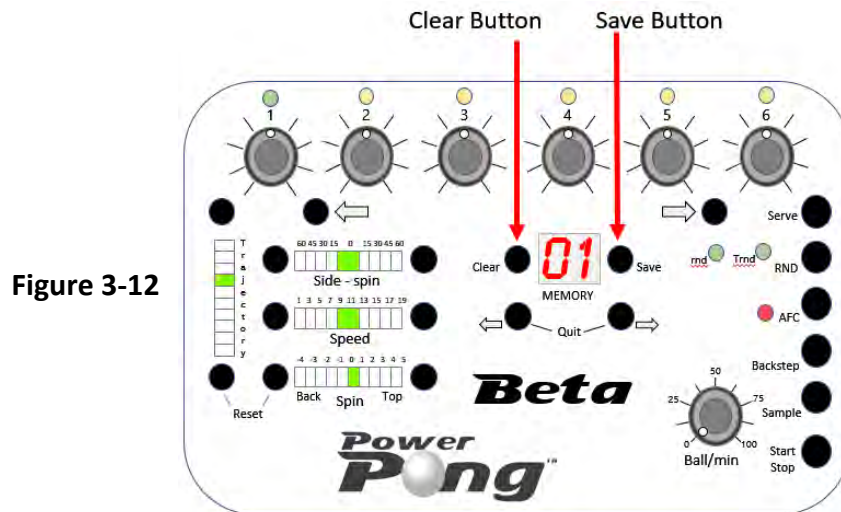

Figure 3-12
3.4.4 Clear Button (Figure 3-12)
3.4.5 Save Button (Figure 3-12)